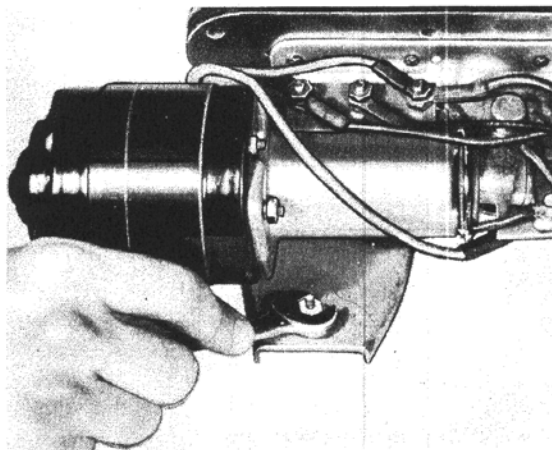

Figure 4 Removing Mounting Nut Underneath Cowl
5. Remove nut holding unit to mounting stud underneath cowl (See Figure 4). This allows all of wiper parts underneath cowl to be removed from car as an assembly, providing nothing else, such as glove compartment, radio or heater, is in the way.
1. Place wiper assembly under cowl, allowing wiper arm shafts to go through holes in cowl. Fasten to mounting stud as shown in Figure 4.